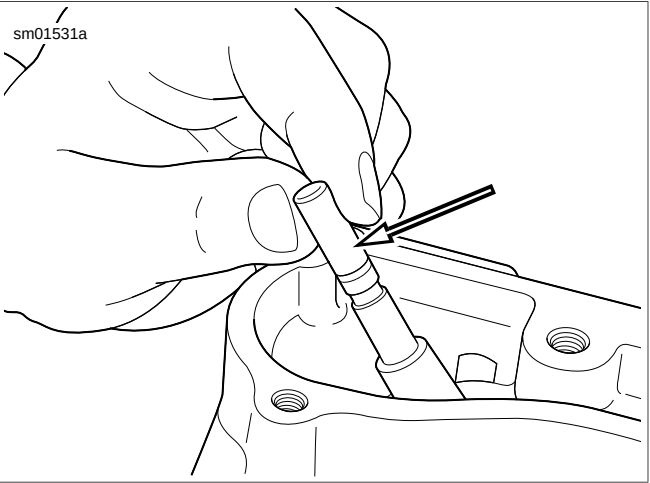

Figure 3-67. Valve Guide Seal Protector Sleeve
3. See Figure 3-67. Place a protective sleeve over the valve stem keeper groove. Coat the protective sleeve with SCREAMIN' EAGLE ASSEMBLY LUBE.